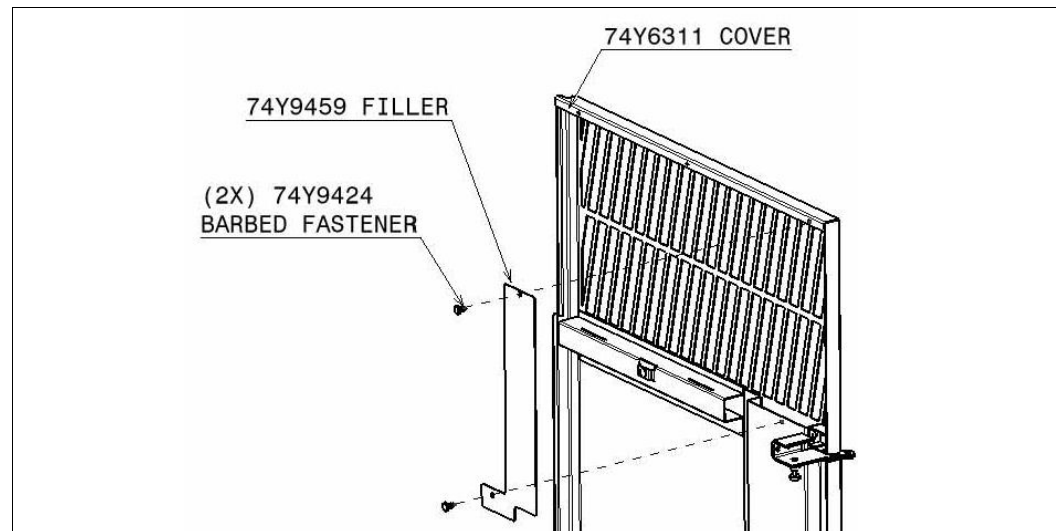

Figure 1-50 Partial filler installation on the front left cover when an I/O enclosure is installed
2. Install the partial filler (part number 74Y9459) on the front left cover (part number 74Y6311). See Figure 1-50.